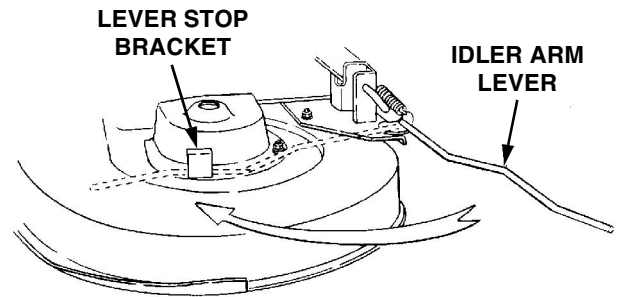

Figure 6-29
15. While holding the belt in position, rotate and engage the deck idler arm lever into its stop bracket to tension the PTO belt (See Figure 6-29).